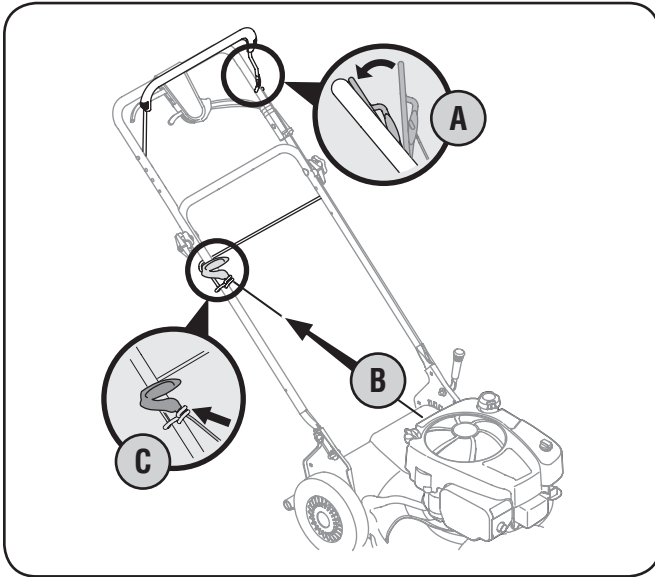

Figure 3-3
3. The rope guide, which is connected to the support rod, is located on the right side of the lower handle. See Figure 3-3.